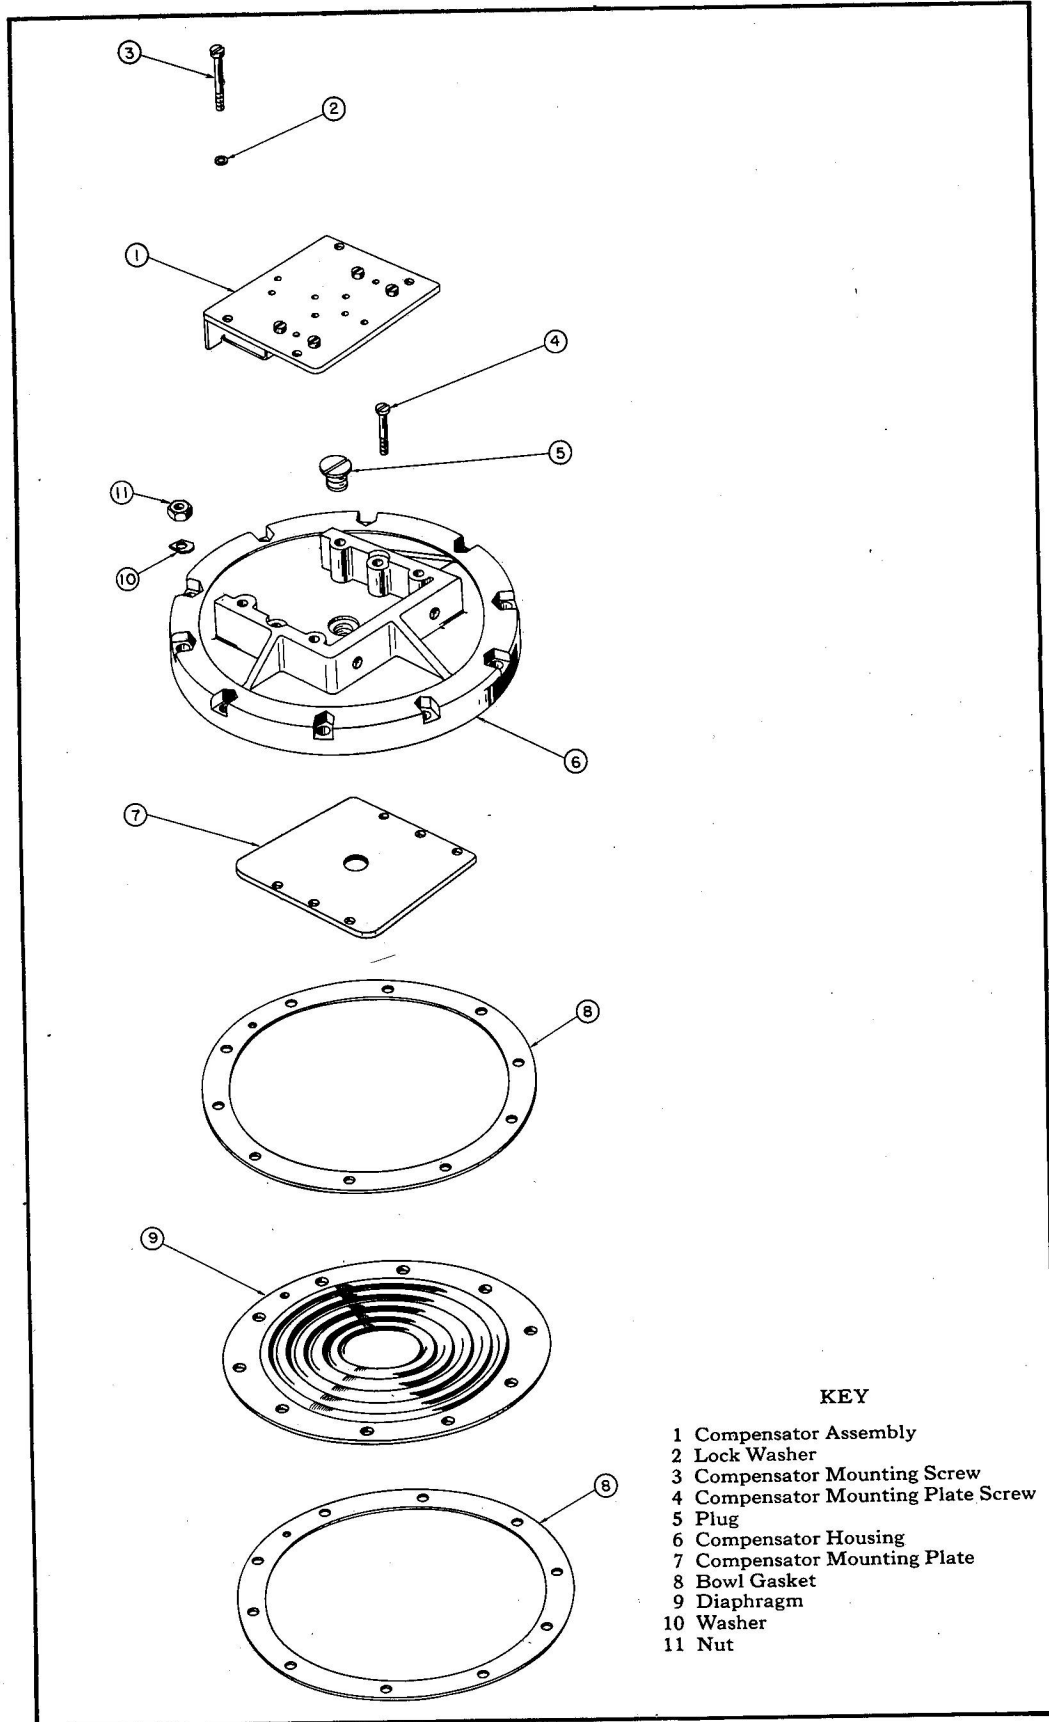
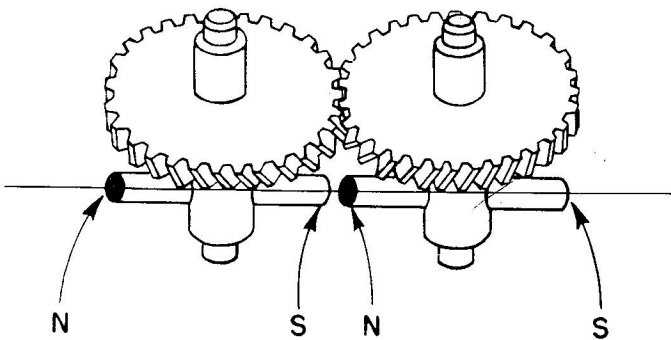

Figure 15—Exploded View Drawing—Main Assembly—Transmitter—Type AN 5730-3
Figure 21—Position of Magnets in Compensator Assembly
(a) Remove the four screws (3, figure 15) and lock washers (2, figure 15). Lift the compensator assembly (1, figure 15) from the compensator housing (6, figure 15).
Do not remove the two screws (4, figure 15) from the compensator housing (6, figure 15) at this time. The compensator mounting plate (7, figure 15) will drop, causing dam-
age to the diaphragm (9, figure 15), if the screws are removed *before* the compensator housing is separated from the upper compass bowl (1, figure 16). On later models these two screws are covered with sealing wax.
(b) Do not disassemble the compensator assembly (1, figure 15) unless it is necessary to magnetize or demagnetize the compensator magnets. If this operation is necessary, remove the four screws (1, figure 18) and lift off the compensator cover. Remove the spacing washers (2) from the magnet staffs and idler gear staff. The spacing washers are used to reduce the play of the magnet staff and the idler gear staff. There will be no spacing washers present if there was no evident play at reassembly.
(c) Remove the lower magnet assembly from the bracket. The two lower magnets, with their staffs and gears, are matched and must not be disassembled or interchanged with similar parts of other compensator assemblies. Mark these two parts and keep them together so they may be reassembled as a matched pair. Damage or wear to any part of the two lower magnets, their staffs, or gears, will require replacement of the compensator assembly (1, figure 15).
(d) Remove the upper magnet assembly from the bracket. The two upper magnets, with their staffs and gears are matched and must not be disassembled or interchanged with similar parts of other compensator assemblies. Mark these two parts and keep them together so they may be reassembled as a matched pair. Damage or wear to any part of the two lower magnets, their staffs, or gears, will require replacement of the compensator assembly (1, figure 15).
(e) Remove the idler gear assembly from the bracket. Do not disassemble the idler gear assembly. If damaged, replace the compensator assembly (1, figure 15). The two compensator drivers, the two compensator springs, and the two compensator knobs must not be removed from the bracket. If any of these parts is damaged, replace the compensator assembly (1, figure 15).
(b) Remove the plug (5, figure 1) and measure the distance between the top surface of the compensator housing and the diaphragm. The distance must be  $3/8$  inch (+ $1/8$  or 0.0 inch). (See figure 19). If the measurement does not meet this requirement, the diaphragm (9, figure 15) must be replaced with a new one during reassembly. Early models of Pioneer type 10062-1-A did not have the plug in the com-
pensator housing but instead had a very small opening which was closed with sealing wax during reassembly. Scrape the sealing wax out of the gage hole and make the previously described measurement. Upon reassembly replace the old type compensator housing, PD-23534-1, with the later type housing (6, figure 15). With the new housing use two screws (4, figure 15), the compensator mounting plate (7, figure 15), and the plug (5, figure 15).
(b) Remove the eight screws (18, figure 17), two screws (5, figure 17), 10 nuts (11, figure 15), and 10 washers (10, figure 15) holding the upper compass bowl (1, figure 16) and lower compass bowl (4, figure 17) together.
(5) SEPARATION OF COMPENSATOR HOUSING FROM UPPER COMPASS BOWL. (See figure 15.)
(a) Separate the compensator housing (6) from the upper compass bowl (1, figure 16) by breaking the seal made by the two cemented bowl gaskets (8, figure 15) with a razor blade. Remove the two bowl gaskets and the diaphragm (9) from the upper compass bowl.
(2) REASSEMBLY OF COMPENSATOR HOUSING AND UPPER AND LOWER COMPASS BOWLS. (See figure 15.)
(b) Brush a light coating of cellulose nitrate lacquer, Specification No. AN-TT-L-51, diluted approximately 25 percent with cellulose nitrate thinner, Specification No. AN-TT-T-256, around the bottom edge of the compensator housing (6) and around the top edge of the upper compass bowl (1, figure 16). Place the diaphragm (9, figure 15) between two new impregnated bowl gaskets (8) paragraph c (1) (c) this section, and line up their screw holes using the locating hole provided in each part for that purpose.
(c) By inspection, note the *unequally* spaced mounting bosses on the upper compass bowl (1, figure 16). Place the diaphragm (9, figure 15) with its two bowl gaskets (8) on the top edge of the upper compass bowl so that their locating holes are between the mounting bosses that are closest together.
(f) Place the new impregnated bowl gasket (10, figure 16) (refer to section VI, paragraph c. (1) (c)) on the lower compass bowl, (4, figure 17). The locating hole in the bowl gasket will be in line with the boss provided for the electrical connector receptacle (3, figure 17). Place the upper compass bowl (1, figure 16), together with the compensator housing (6, figure 15), over the lower compass bowl. The arrow marked "FORE" will line up with the boss provided for the electrical connector receptacle.
(g) Insert the eight screws (18, figure 17) and two screws (5, figure 17) up through the lower compass bowl (4, figure 17), the upper compass bowl (1, figure 16), and the compensator housing (6, figure 15). Note that there are two screws (5, figure 17) provided with holes for wire sealing. One of them is to be used in a position directly to the left of the filling hole when facing the filling hole. The other screw is to be used in the second position to the right of the boss provided for the electrical connector receptacle when facing this boss. When these two screws are correctly placed, there will be just two screws (18, figure 17) between them.
(h) Place a washer (10, figure 15) over each screw (5, figure 17) and screw (18, figure 17) and secure with the ten nuts (11, figure 15). Tighten the screws as much as possible to prevent leaks between the two compass bowls and the compensator housing.
(a) If it was necessary to disassemble the compensator assembly (1, figure 15), reassemble it according to the following instructions.
(c) Place the two units of the upper magnet assembly in the bracket so that the two magnets are parallel to each other and to the longitudinal axis of the compensator knobs. This assembly is a matched pair, and the two separate units must not be interchanged with similar units of other compensator assemblies. If replacement of one unit is necessary, the entire compensator assembly (1, figure 15) must be replaced. Mesh one of the gears of the upper magnet assembly with the driver of the "NS" compensator knob. Make sure that the black painted pole of one magnet is directly opposite the unpainted pole of the other. (See figure 21.)
(d) Place the two units of the lower magnet assembly in the bracket so that the two magnets are parallel to each other and perpendicular to the upper magnets. Make certain that the black painted pole of one magnet is directly opposite the unpainted pole of the other. (See figure 21.) This assembly is a matched pair, and the two separate units must not be interchanged with similar units of the other compensator assemblies. If replacement of either unit is necessary, the entire compensator assembly (1, figure 15) must be replaced. One gear of the lower magnet assembly must be meshed with the idler gear assembly which is driven by the driver of the "EW" compensator knob.
(g) If the diaphragm (9, figure 15) was not checked for correct functioning during disassembly, or if a new diaphragm was used, it will be necessary to make that check before the compensator assembly (1, figure 15) is replaced in the compensator housing. Refer to paragraph b. (3), this section.
(h) Place the compensator assembly (1, figure 15) in the compensator housing (6, figure 15) and secure with the four screws (3, figure 15) and lock washers (2, figure 15).